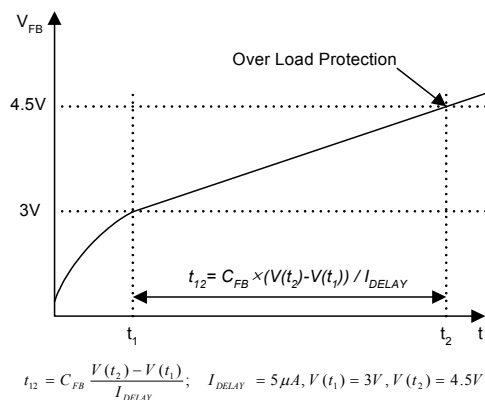

Figure 8. Over Load Protection (OLP)
**4.1 Over Load Protection (OLP) :** Overload is defined as the load current exceeding a pre-set level due to an unexpected event. In this situation, the protection circuit should be activated in order to protect the SMPS. However, even when the SMPS is operating normally, the over load protection (OLP) circuit can be activated during the load transition. In order to avoid this undesired operation, the OLP circuit is designed to be activated after a specified time to determine whether it is a transient situation or an overload situation. In conjunction with the Ipk current limit pin (if used) the current mode feedback path would limit the current in the Sense FET when the maximum PWM duty cycle is attained. If the output consumes more than this maximum power, the output voltage ( $V_o$ ) decreases below its rating voltage. This reduces the current through the opto-coupler LED, which also reduces the opto-coupler transistor current, thus increasing the feedback voltage ( $V_{FB}$ ). If  $V_{FB}$  exceeds 3V, the feedback input diode is blocked and the 5uA current source ( $I_{DELAY}$ ) starts to charge  $C_{fb}$  slowly up to  $V_{cc}$ . In this condition,  $V_{FB}$  increases until it reaches 4.5V, when the switching operation is terminated as shown in Figure 8. The shutdown delay time is the time required to charge  $C_{fb}$  from 3V to 4.5V with 5uA current source.